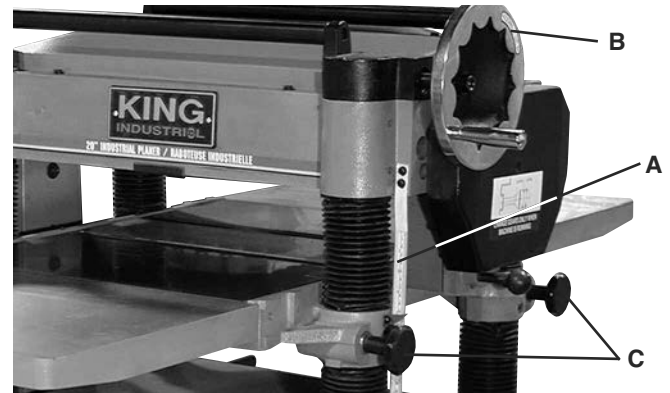

FIGURE 13
The cutting depth scale (A) Fig.13 includes a combination of inch/metric measurements with a cutting range from 0" to 8". The upward or downward movement is controlled by the handwheel (B). One turn of the handwheel will increase or decrease the height by 0.059" (1.5mm). Before attempting to move the position of the head up or down, loosen the lock knobs (C). Once the head is in the proper height, retighten lock knobs (C).